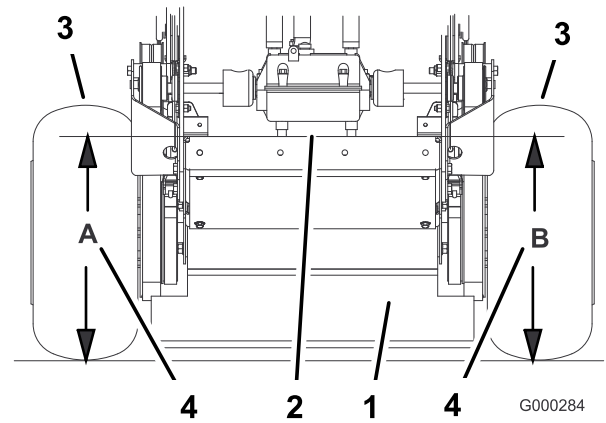

Figure 53
5. Measure the engine-deck height at location **B** (Figure 53).
4. Measure engine deck height at location **A** (Figure 53).